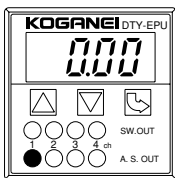

Figure 2
- The electric potential of the selected channel is indicated in the LED display. (The selected channel's A.S.OUT LED (green) lights up. See Figure 2.)